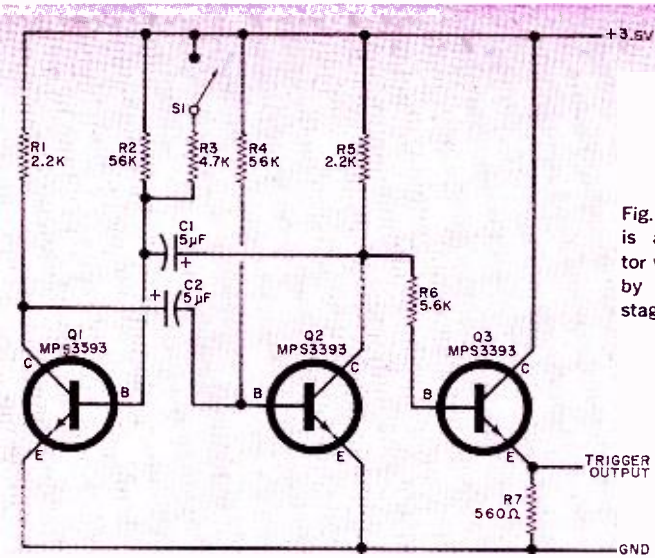
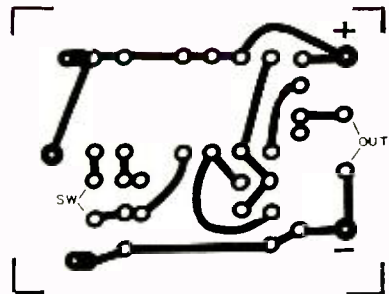

Fig. 3. The trigger generator is a conventional multivibrator whose frequency is changed by resistor variation. Output stage is an emitter follower.
Fig. 4. Actual-size foil pattern for the oscillator.
**Test Set.** There are two circuit boards in the test set: an oscillator and a socket-contact board. The oscillator section, whose schematic is shown in Fig. 3, is assembled on the PC board with the foil pattern shown in Fig. 4. Mount the components on the board as shown in Fig. 5.